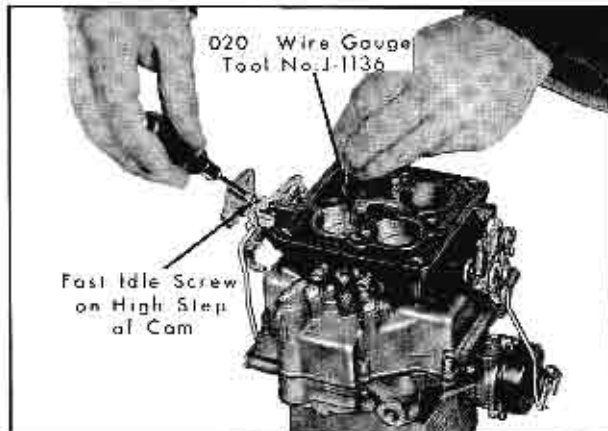

Fig. 12-42 Fast Idle Adjustment
1. Invert carburetor as shown in Fig. 12-42.